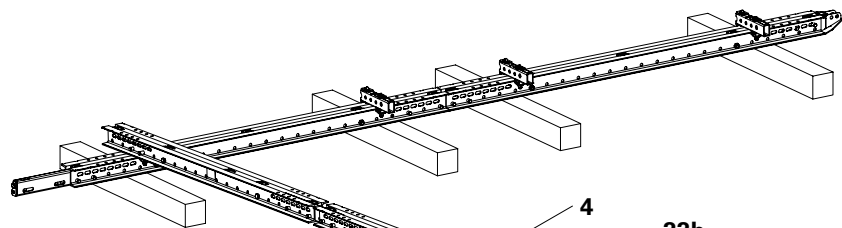

Fig. B4.03
- Assemble the Steel Waler Universal SRU (22) with Longitudinal Connector SRU (4) as Cross Beam (22b) according to project-specific dimensions.
- Position pre-assembled Cross Beam on the Cross Fall Compensator and mount using fitting pins (38) and cotter pins (39), see section "A1 System-Specific Components – Cross Fall Compensator SRU".
- Accurately align the Cross Beam and tighten nuts (3.4). (Tightening torque 120 Nm) (Fig. B4.03 + B4.03a)